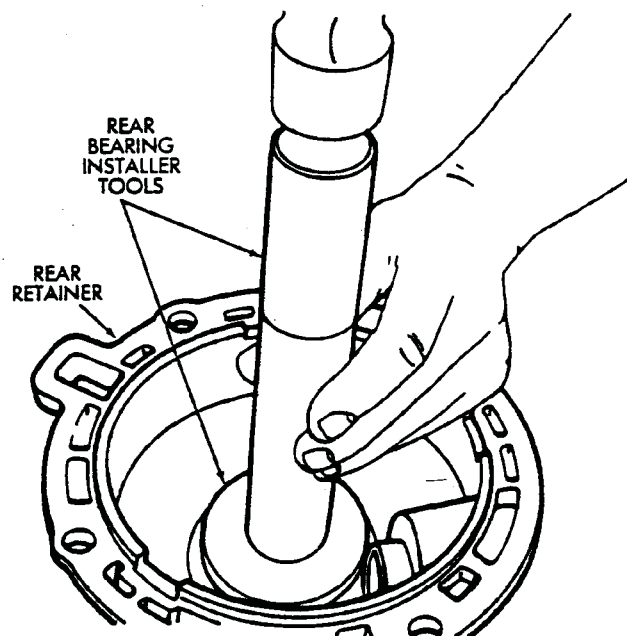

Fig. 4-37 Rear Bearing Installation
22. Install new rear bearing in rear retainer (Fig. 4-37). **Bearing is shielded on one side. Be sure shielded side faces case interior after installation.**